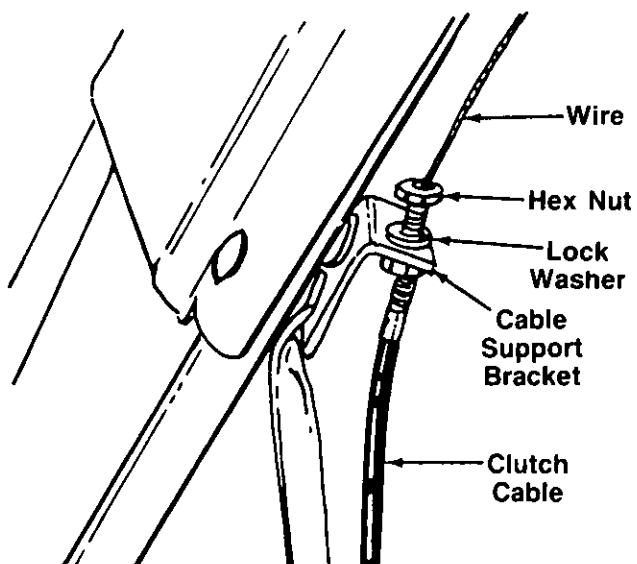

FIGURE 15.
18. Remove one nut and lock washer from other end of clutch cable. Slip the wire up through slot on cable support bracket. Start hex nut and lock washer back on end of clutch cable. See figure 15. Do not tighten at this time.